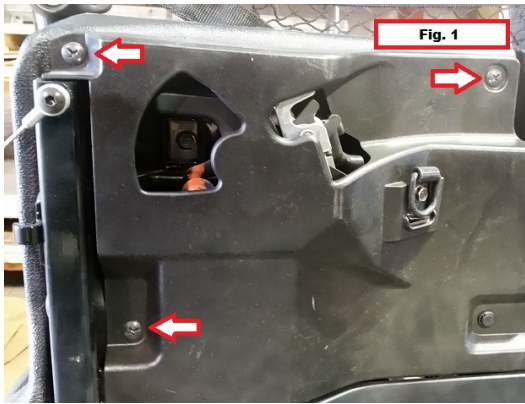

Fig. 1
- 1) Remove three Phillips screws from side panels on inside of bed. Fig.1